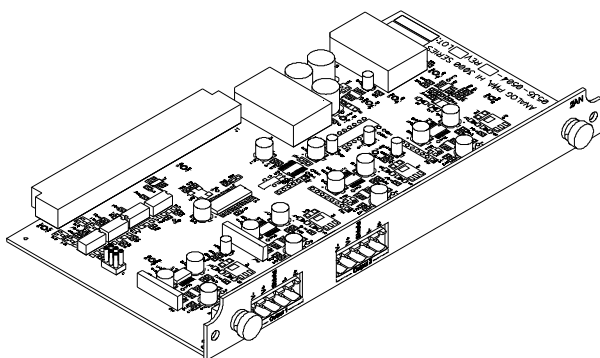

FIG. 78: ANALOG OUTPUT OPTION 2AN
- Step 1. Position the Analog Option Card with the back plane connector facing Option Slot #0 or Option Slot #1. (See Fig. 78)